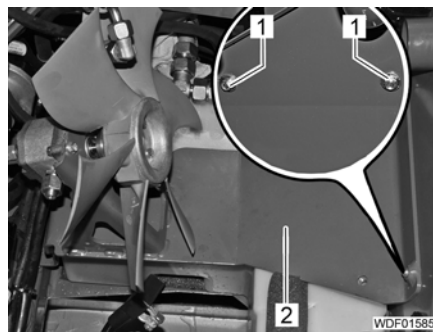

Fig. 179 Fastening mounting (front)
- Mark position of the mounting (Fig. 179,2) on the sump.
- Unscrew 2 bolts (Fig. 179,1).